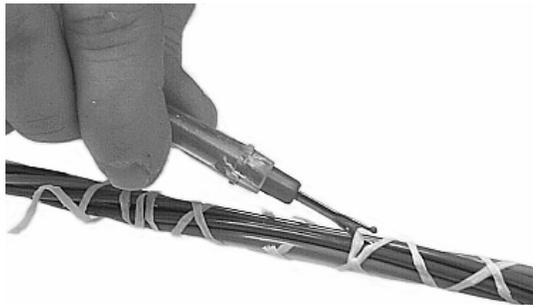

Figure 16 - Remove the binder threads and water blocking tape.
4.18 Unwrap and remove the core binder thread and water blocking tape from the cable (Figure 16).